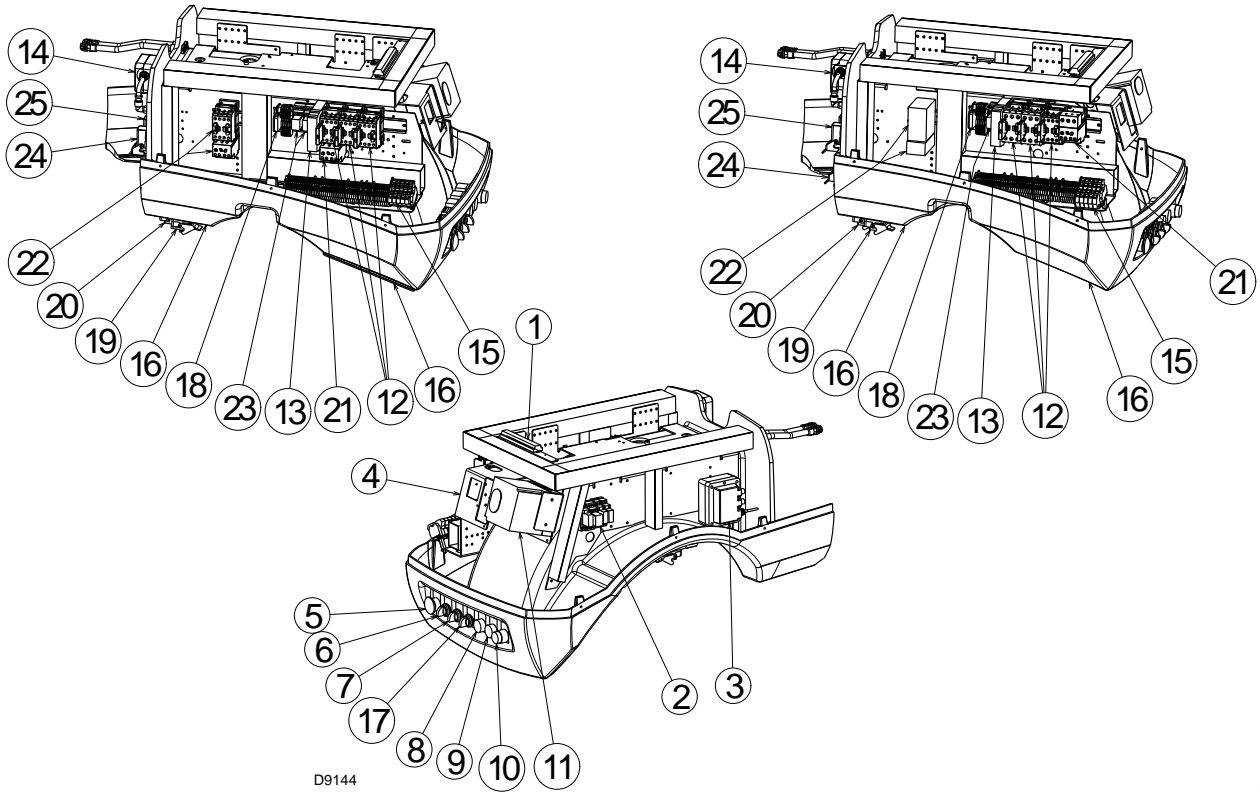

Fig. 5
- **Control box lock-out:** if the control box 11)(Fig. 5) pushbutton (**red led**) and the reset button 10)(Fig. 5) light up, it indicates that the burner is in lock-out. To reset, press the pushbutton 10)(Fig. 5).